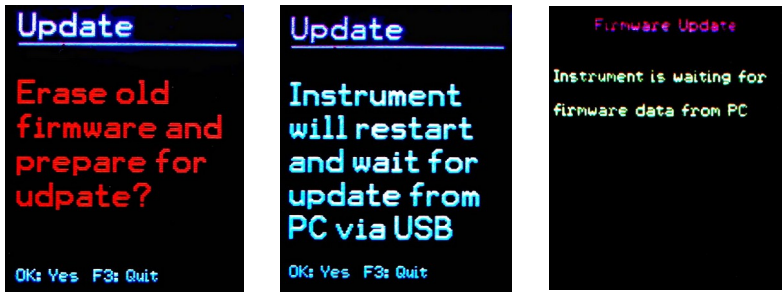

Figure 50: Firmware update
6. In the VM31 “Device Settings” select the option “Firmware update” and confirm the warning and subsequent hint messages by pressing OK. By carrying out this step the old firmware is deleted. The VM31 will then indicate that it awaits new firmware data from the USB interface (Figure 50).